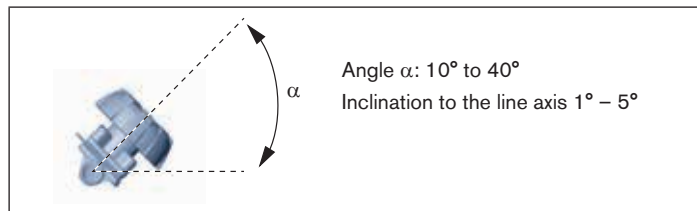
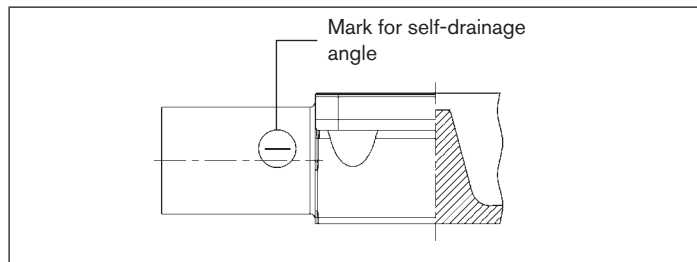

Fig. 5: Installation position for self-drainage of the body
Fig. 6: Mark for the correct installation position
- Install body inclined by angle  $\alpha = 10^\circ$  to  $40^\circ$  to the horizontal (see Fig. 5). Forged and cast body feature a mark which must face upwards (12 o'clock position, see Fig. 6).